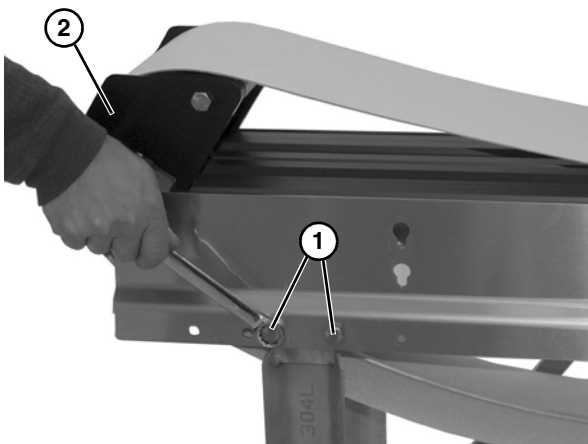

Figure 12
1. Remove two cap screws (**Figure 12, item 1**) holding stand to conveyor.
2. Rotate idler end (**Figure 12, item 2**) upward.